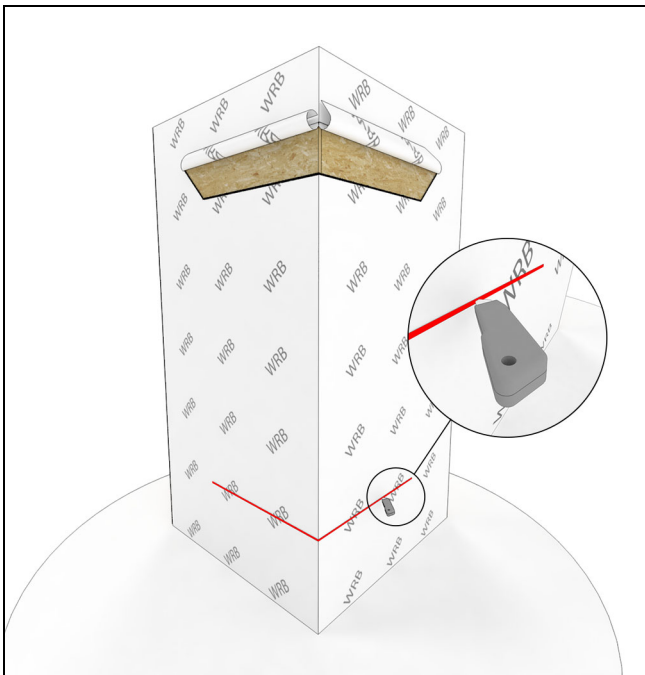

Figure 6
7. Cut the air barrier across the sill. See Figure 6